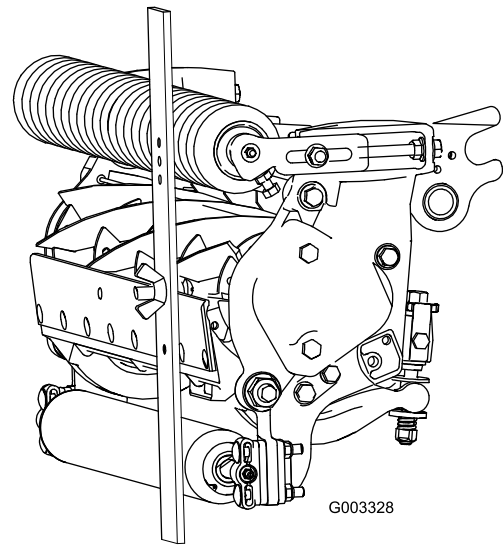

Figure 17
3. Hook the screw head on cutting edge of bedknife and rest rear end of bar on rear roller (Figure 17).
4. Rotate the adjusting screw until the front roller contacts the gauge bar (Figure 17). Adjust both ends of roller until entire roller is parallel to the bedknife.